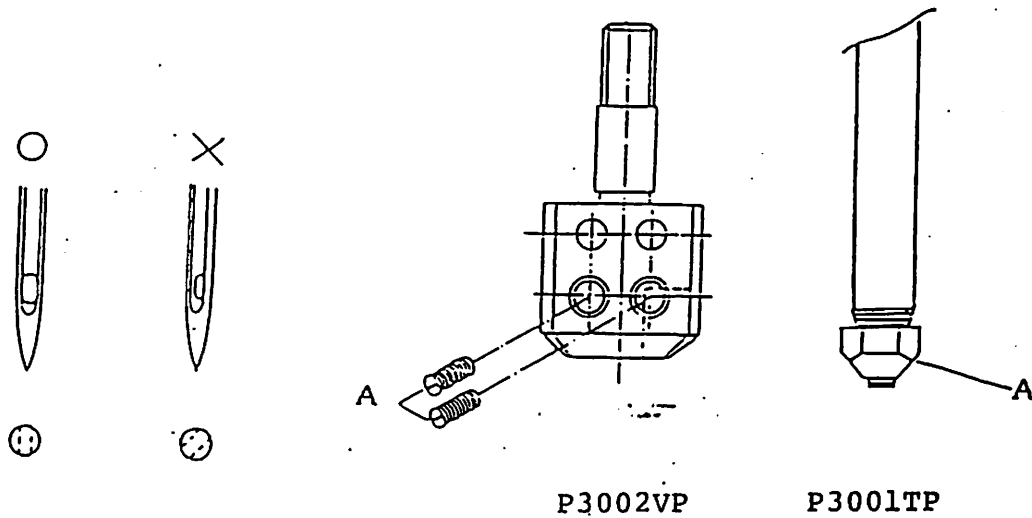

Fig. 2
4. Installation of Needle (Refer to Fig. 2.)